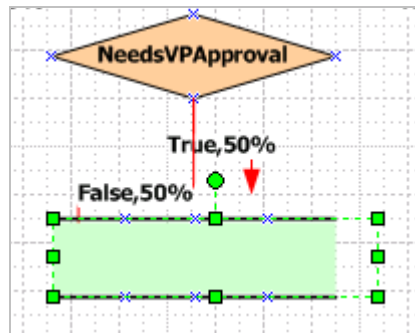

Figure 3-27. Assignment Shape
3. Select and drag an Assignment shape  from the Shapes stencil and drop it below the Decision shape, so that purchase order requests can be routed to the Vice President. Position the new VPApproval assignment shape below the NeedsVPApproval decision shape (Figure 3-27).